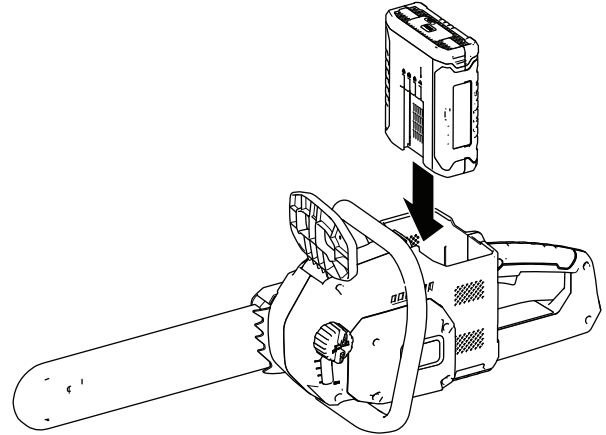

Figure 26
- Align the tongue of the battery pack with the battery cavity in the chain saw (Figure 26).